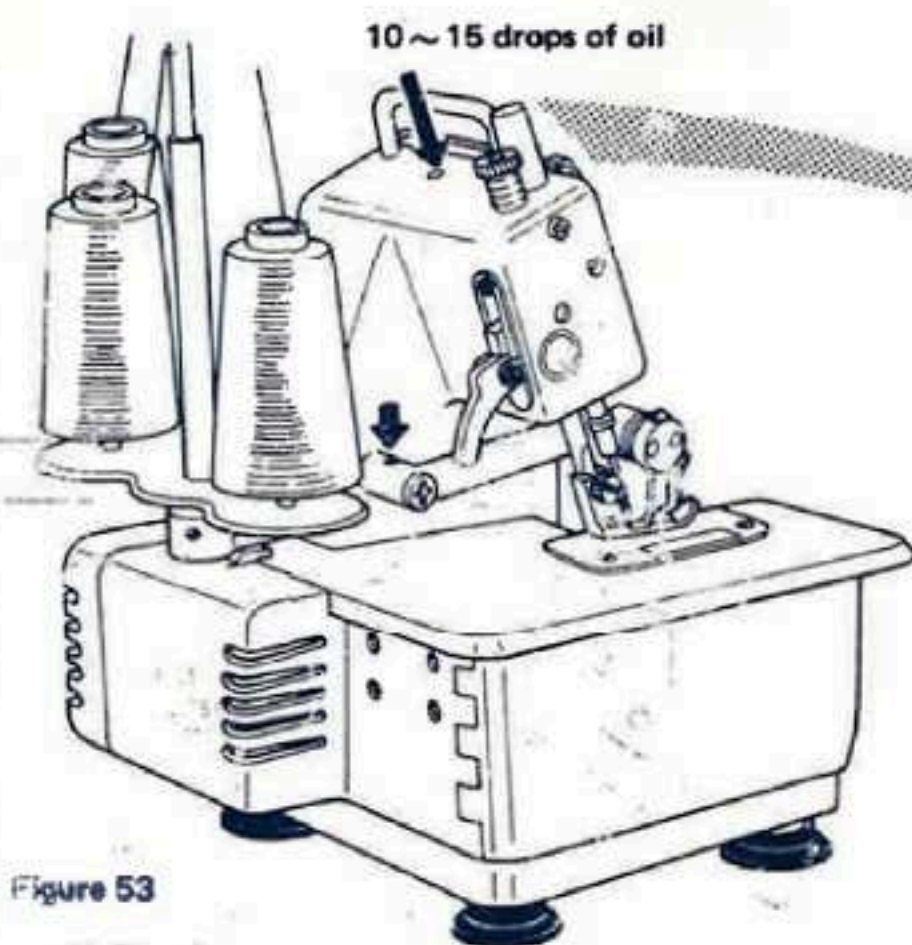

Figure 53
Oiling your machine properly will increase its durability. The machine has four oil holes marked in red on the outside of the housing (Figure 53).
5. On needle bar, remove plastic needle bar cap (Figure 53).